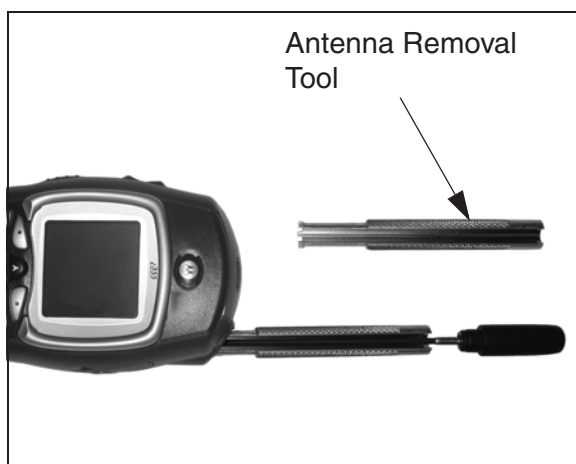

Figure 4-1.
2. Align the antenna shaft with the tool slot and place the Antenna Cap inside its compartment in the tool. (See Figure 4-1.)